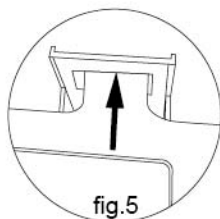

fig.5
- **CHANGING THE SHADE CARTRIDGE** (See fig.5).